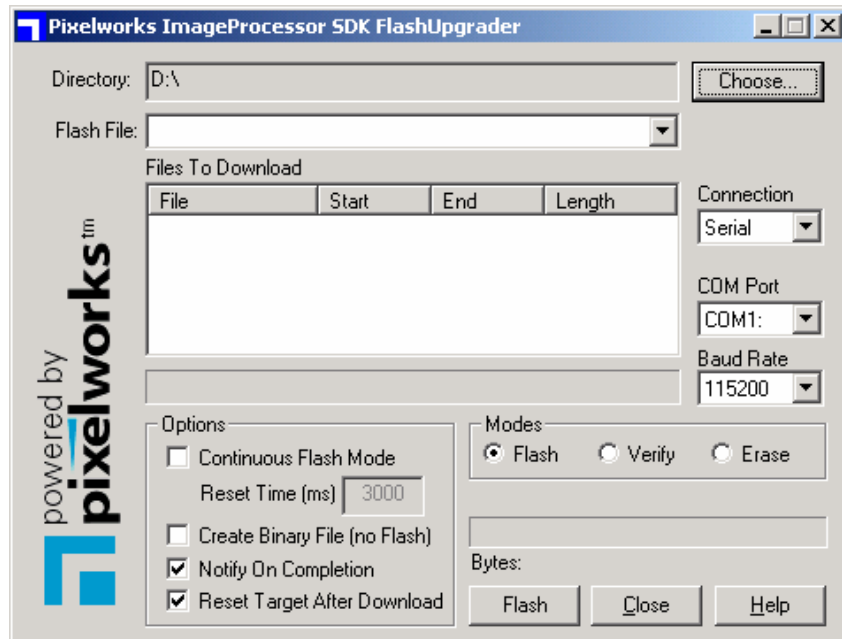

Figure 2
Gray Scale Pattern (Figure 2)
- (3) Launch FlashUpgrader utility. Use the figure shown in Figure 2 to set the application.
- 1.3 Put LCD TV in PE bag and seal the bag. (Figure 2)
(Figure 2)